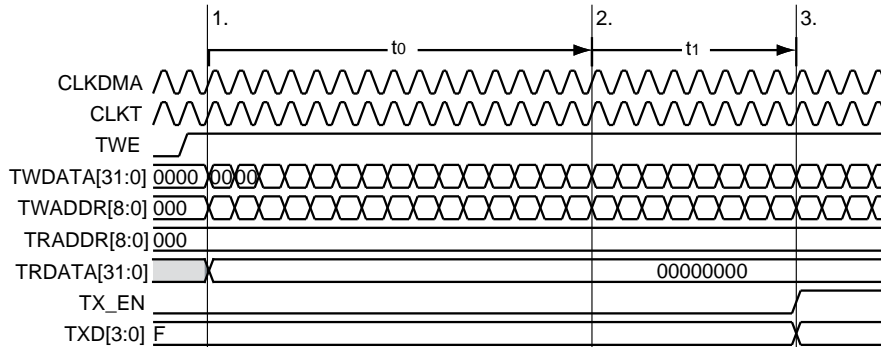

Figure 35 Transmit FIFO Threshold and Start of Transmit on MII
2. Core10100 reaches the transmit FIFO level (see Table 18). Figure 35 shows that the transmit FIFO threshold is set at 64 bytes, with sixteen 32-bit word writes.